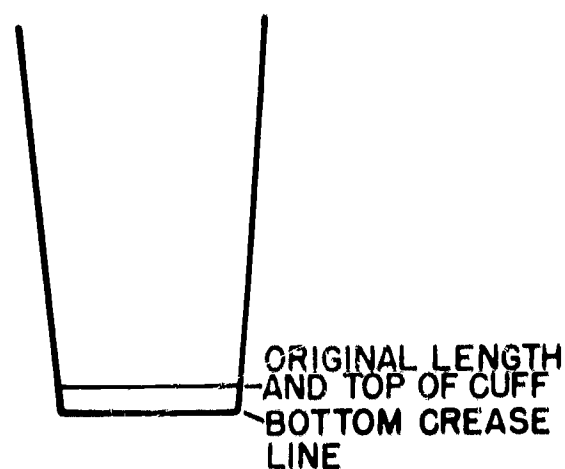

Figure 68.
3. Fold middle crease line (top of cuff crease) up to meet top crease line (original length) as shown in Figure 68. Note that the top of the original cuff remains the top of the new cuff.